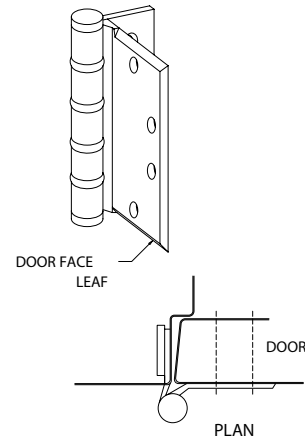

FIGURE 1c
3. The Half Surface Butt Hinge, Figure 1c, has one leaf surface mounted on the face of the door and one leaf mortised into the frame rabbet.